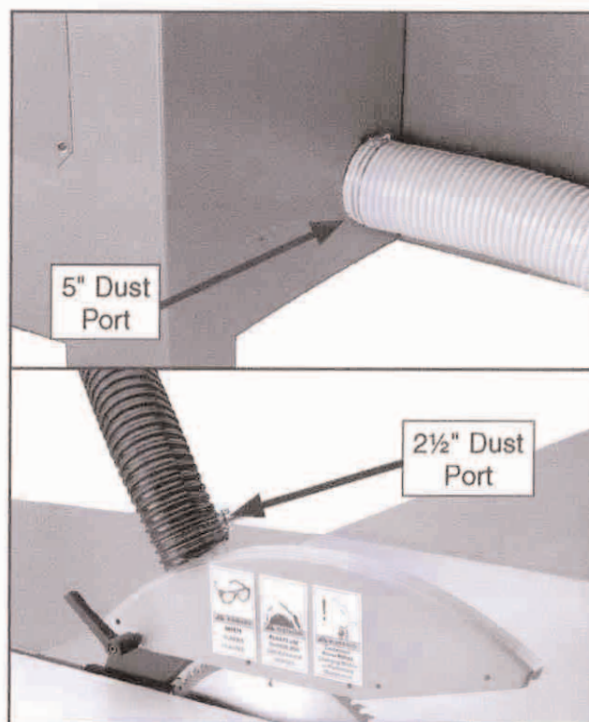

Figure 47. Dust port locations.
1. Run a 5" hose from the dust collector to the dust port located under the saw table (**Figure 47**) and secure it with hose clamps.
2. Install the blade guard/dust hood on the riving knife with the adjustable handle and flat washer as shown in **Figure 47**.
3. Run a 2½" hose from the dust collector to the blade guard port (**Figure 47**) and secure it with hose clamps.